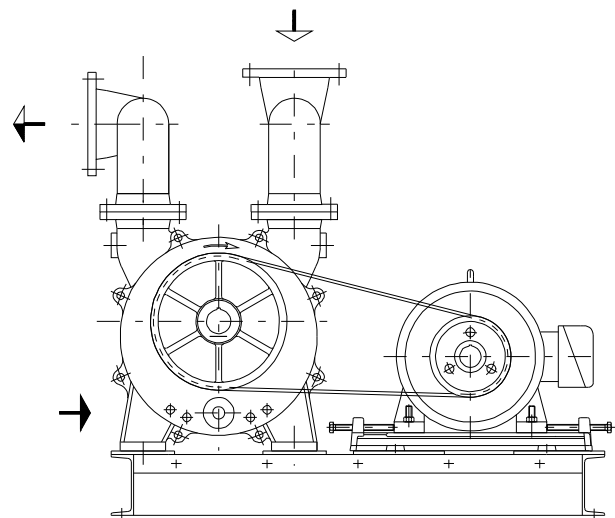

fig. 3.3 Pump with clockwise rotating shaft
- Pump with clockwise rotating shaft (fig. 3.3):